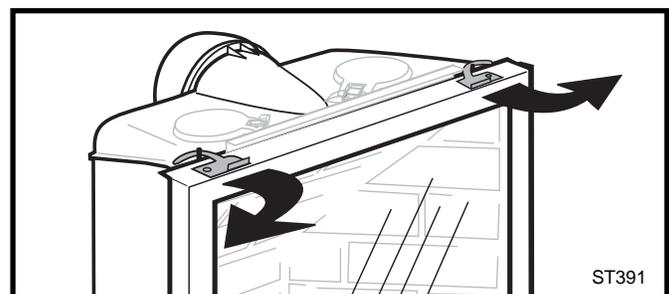

Fig. 12 Pivot the locking latches to release the glass frame.
1. Pivot the two latches at the top corners to disengage the latches from the retainer posts at the top of the firebox. (Fig. 12) Lift the glass frame assembly off the front and place it out of the way on a flat, padded surface such as a counter protected by a towel. *The glass panel will not be replaced until the entire installation is complete and the pilot has been lit.*